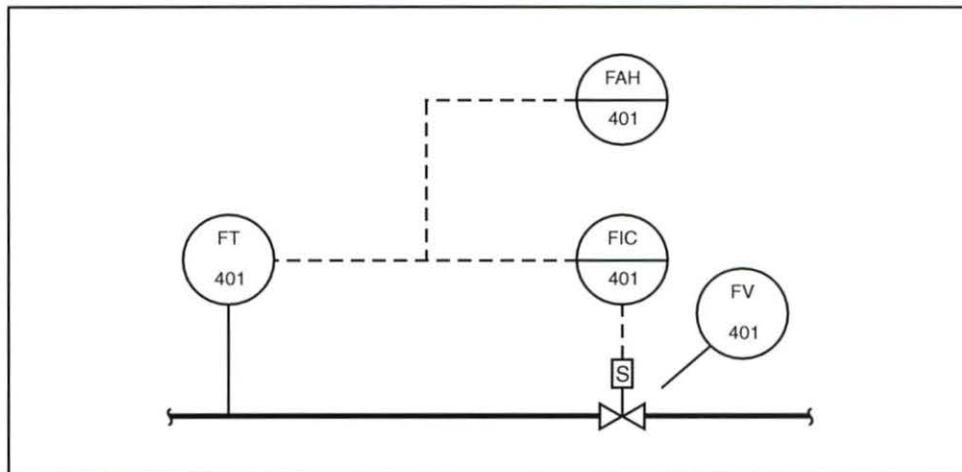

Figure 73. Flow Loop Tags
For example, the four devices in figure 73 all have the same loop number (401) because they are all used in the same loop. This particular loop measures and controls flow.